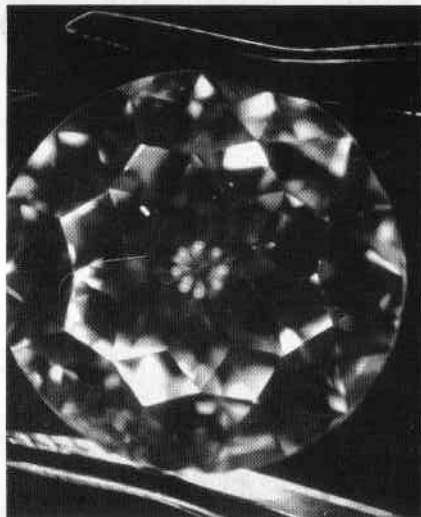

**Figure 2**
*Figure 2* illustrates another problem with rough diamonds, only this one is fraudulently done in order to disguise a yellowish color. It shows a diamond crystal that has been burned, or oxidized, so that the surface takes on a white cast. The stone was submitted to the Laboratory after a cutter had polished several stones from a lot, only to find the color much poorer than he counted on and therefore worth much less than he paid. The entire parcel had been treated.